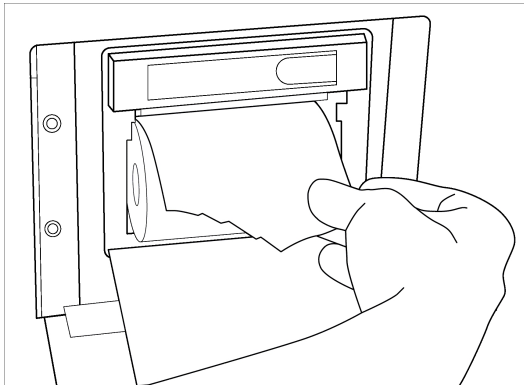

Figure 4-7. Ensuring that the new paper feeds smoothly
7. Spool the edge of the paper out from the printer until the paper is relatively taut and then press the blue feed button a couple of times to ensure the paper feeds smoothly (Figure 4-7).